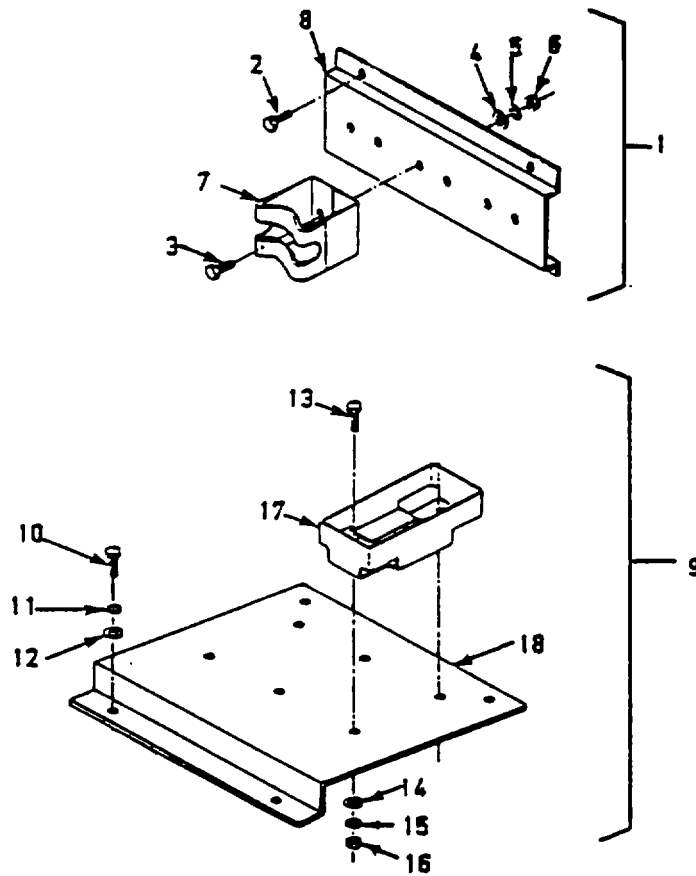

Figure 4-30. Gun Rack Assembly
a. Inspect. (See Figure 4-30.)
b. Replace. (See Figure 4-30.)
(1) Remove bolts (2) from wall gun support (1) and remove support.
(2) Remove bolts (3), flat washers (4), lockwashers (5) and nuts (6) from wall gun support assembly (1), and separate support (7) from mounting bracket (8).
(3) Remove bolts (10), lockwashers (11) and flat washers (12) from floor gun support assembly (9).
(4) Remove bolts (13), flat washers (14), lockwashers (15) and nuts (16), and separate gun support (17) and mounting bracket (18).
(5) Secure mounting bracket (18) to replacement gun support (17) with bolts (13), flat washers (14), lockwashers (15) and nuts (16).
(6) Place floor gun support assembly (9) in position and install bolts (10), lockwashers (11) and flat washers (12).
(7) Secure mounting bracket (8) to replacement gun support (7) with bolts (3), flat washers (4), lockwashers (5) and nuts (6).
(8) Place wall gun support assembly (1) in position and install bolts (2).
c. Repair. (See Figure 4-30.)
c. Repair. (See Figure 4-30.) - Continued